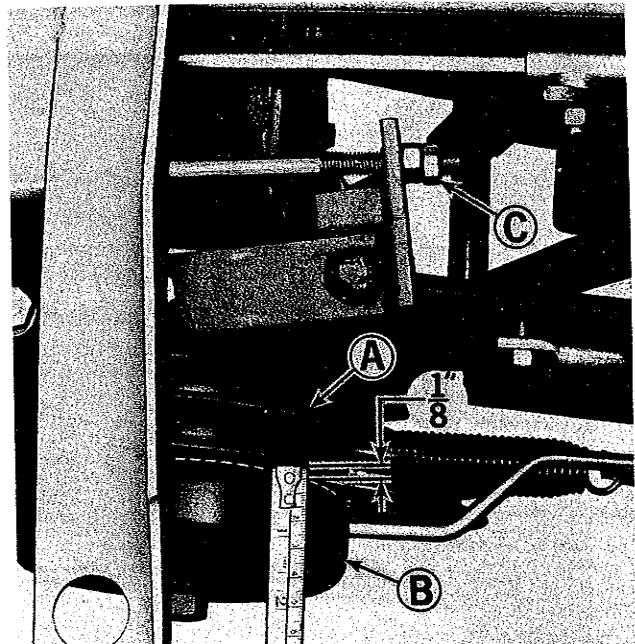

Figure 13. Power take off clutch.
See figure 13. The power take off clutch is properly adjusted when pulley (A) moves  $\frac{1}{8}$ " when the power take off control lever is engaged and disengaged. If adjustment is required, proceed as follows:
3. Observe the movement of pulley (A) in relation to cup (B) as the power take off control is moved slowly from the engaged to disengaged position. If the pulley (A) moves more or less than  $\frac{1}{8}$ " adjustment is required.
4. Turn the rear most nut at (C) counter-clockwise to loosen it slightly. To increase the amount pulley (A) travels turn the nuts at (C) clockwise. To decrease travel of pulley (A), turn the nuts counter-clockwise. Adjust the nuts at (C) and observe the travel of pulleys (A) as the power take off lever is engaged and disengaged. When adjustment has been made so the pulley (A) travels  $\frac{1}{8}$ " tighten the rear most nut at (C) against the forward nut to lock them in place.